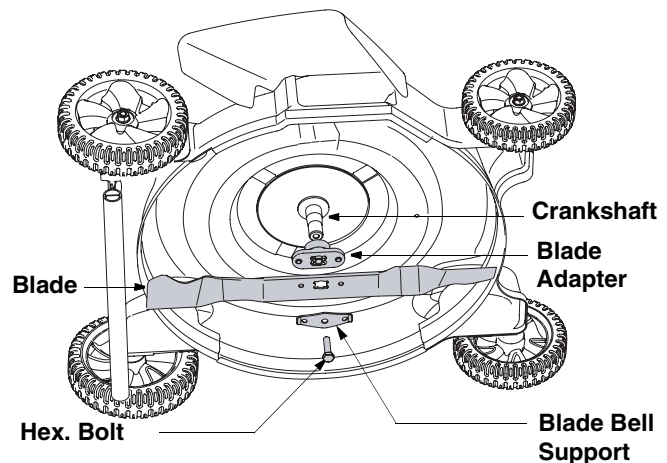

Figure 14
- Remove the bolt and the blade bell support which hold the blade and the blade adapter to the engine crankshaft. See Figure 14.
- Install the blade adapter on the crankshaft with the “star” away from the engine. See Figure 14. Place the blade with the side marked bottom (or with part number) facing away from the adapter. Align the blade bell support over the blade with the tabs in the holes of the blade and insert the hex bolt.